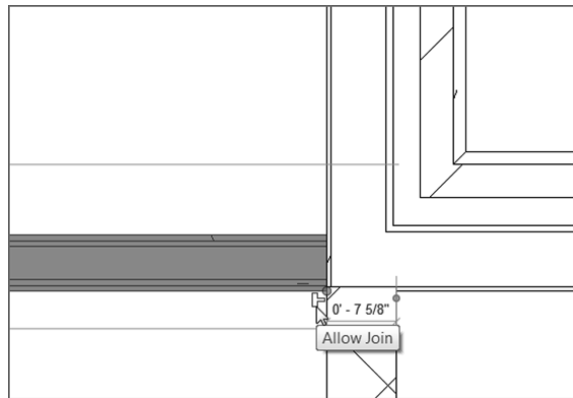

FIGURE 2.59: Allowing the walls to join back up again
8. Notice that there is an additional blue T-shaped icon. Hover your cursor over this icon; click it to allow the walls to join back up, as shown in Figure 2.59.